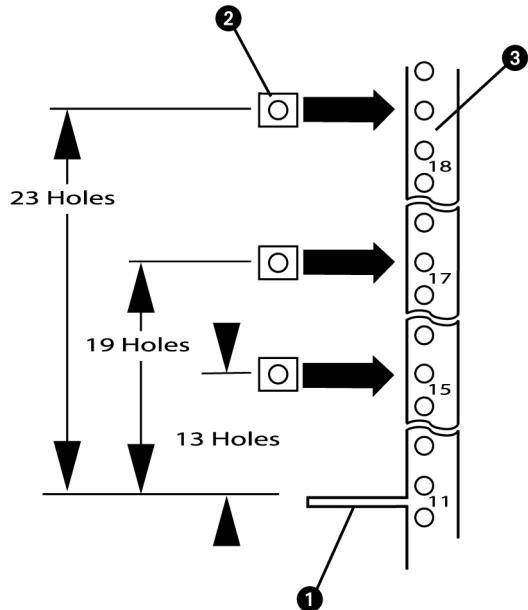

Figure 21 Preparing the front rack columns
- 1. Prepare the front rack columns (Figure 21):**
- a.** Standing at the front of the rack, count up from the top of the rail tray (1) to the 13th, 19th, and 23rd holes on the rack's front face.
- b.** Slide a sheet metal nut (2) on each of the located holes.
**NOTE:** Three sheet metal nuts should be on each front column face (③).